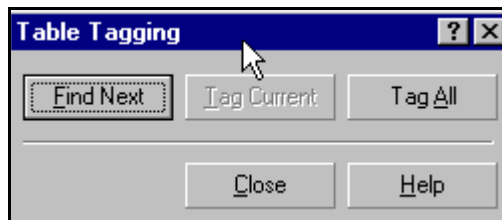

Figure 4-21 Table Tagging Message Box
2. The **Tagging Tables** message box appears (see Figure 4-21).